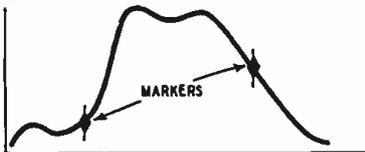

Fig. 1—i.f. trace. Sound traps not adjusted.
1. To observe the i.f. response on an oscilloscope, the generator must supply an FM signal with a 23-mc center frequency, which deviates 4 mc in each direction (total swing of at least 8 mc). While it is possible to find the i.f. response with an AM generator and a v.t.v.m. (without a sweep generator and 'scope), the method is so time-consuming and inaccurate that it is not recommended. The i.f.-response trace on the oscilloscope should look something like Fig. 1 (before the sound trap has been adjusted). To identify the frequencies represented in the curve, r.f. marker